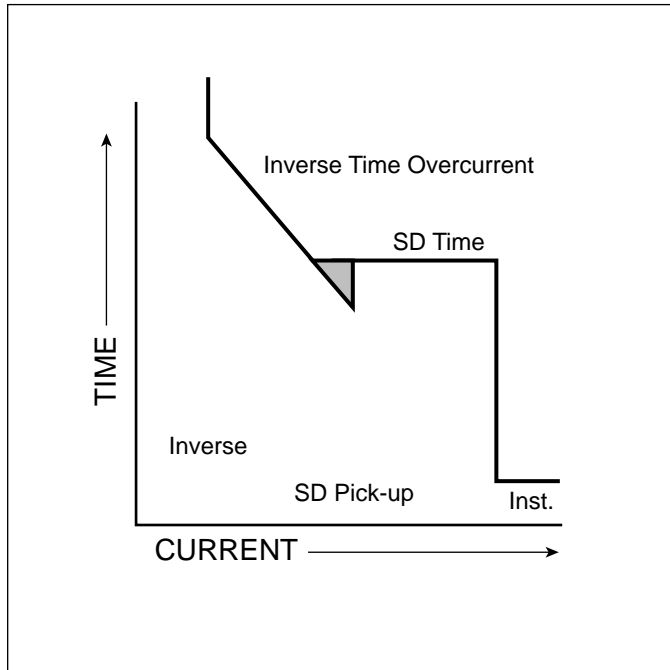

Figure 3-8 Typical Curve with I^2t Shape
a number of protective functions, such as inverse time overcurrent and short delay protection are combined into one cooperative curve. Figure 3-8 shows a typical time-current curve which has both inverse time overcurrent and short delay protection, and an I^2t curve shape selected. Because of the pickup, time and curve shape selections made for this illustration, a triangle (shaded area on the illustration) is formed by the intersection of the different time and pickup lines. Internally, the Digitrip 3000 design looks at this particular curve as if the shaded triangular area does not exist. Therefore, in an actual performance situation, the short delay time function would take precedence over that portion of the inverse time overcurrent line forming the one leg of the triangle. This does not create a problem from a protection or coordination standpoint. In fact, it is recommended on certain applications to set the minimum time the Digitrip 3000 Protective Relay can respond and where it will intersect the inverse time overcurrent curve. If only the Short Delay Time is required, it is recommended that the Short Delay setting be set at 11 times (I_n). It could, however, cause confusion if the combination of protection functions is not viewed as a coordinated activity. For example, an individual might expect a tripping action based on a selected low value for Inverse Time Overcurrent Time Multiplier. The expected tripping action will
3. The internal design of the Digitrip 3000 Protective Relay is such that the Short Delay Time setting might take precedence over the Inverse Time Overcurrent Time. This is graphically illustrated in Figure 3-8.